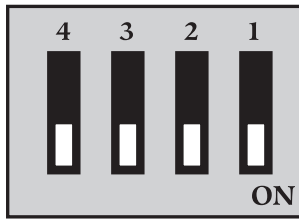

Figure 3. Access Delay Select DIP Switch Bank
15. Configure DIP switches S2 on the Controller (A) to the desired relay activation time. See Table 6 and Figure 3. **Do not use CFG #16 because this setting is used only for reinstalling the controller. For Dual Reader Installations, set the DIP switches on Controller #1 (A1) and Controller #2 (A2).**
17. Position bypass switch S3 on the Controller (A) down for normal mode. When power is supplied to the unit, the indicator light beside the switch should be OFF for normal mode and ON for bypass mode.